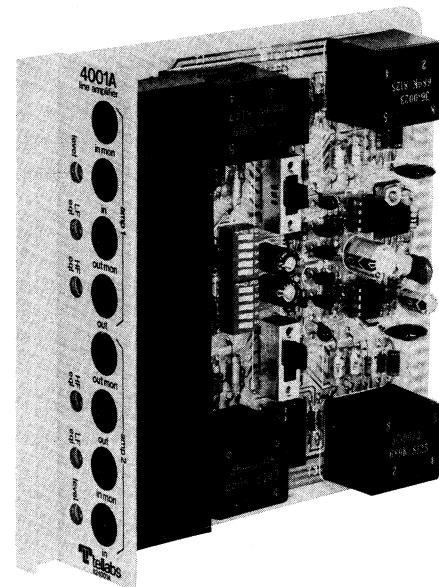

figure 1. 4001A Line Amplifier
1.01 The 4001A Line Amplifier module (figure 1) consists of two independent and identical circuits that each provide level control, impedance matching, and amplitude equalization for a voice-frequency transmission facility. These two circuits, designated *amp 1* and *amp 2*, can serve the transmit and receive channels of a 4wire facility, or they can be used as unidirectional amplifiers on two separate circuits.